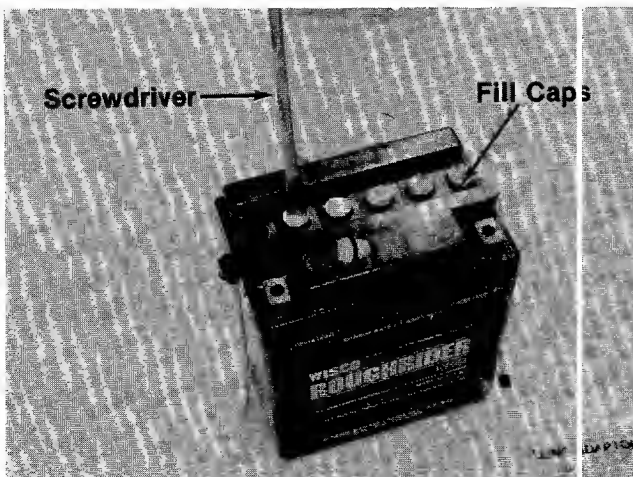

FIGURE 6.
- 3. Place one end of clear plastic drain tube on manifold of battery. See figure 6.
- 4. Remove the six fill caps from the top of the battery with a screwdriver. Care should be taken not to damage the fill caps. See figure 6.